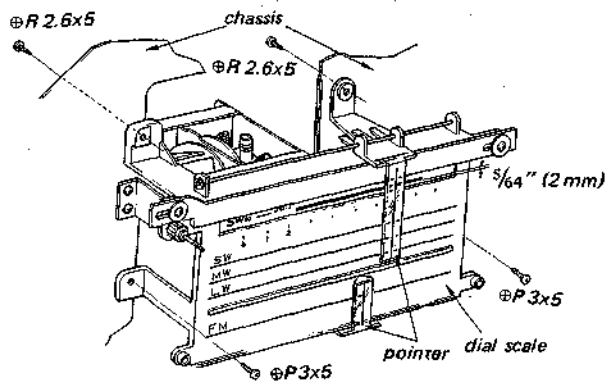

Fig. 2-15
2. Remove the four screws shown in Fig. 2-15.
4. Turn the dial drum so that the drum indicates SW10 and the distance between the dial scale and the line on the drum becomes 5/64 inches (2 mm) as shown in Fig. 2-15.